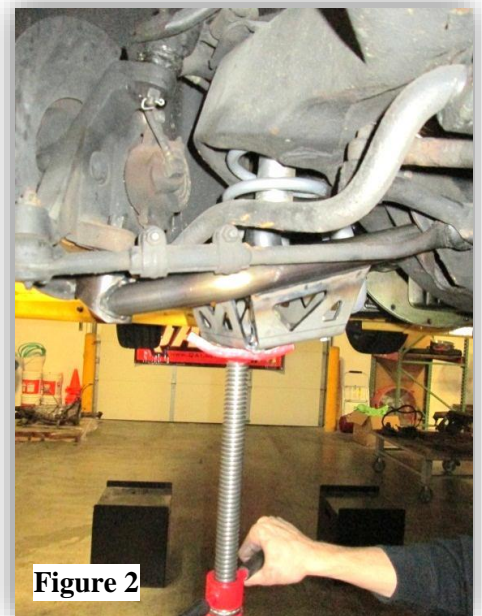

Figure 2
4. Support the lower control arm with a jack to take the pressure off the droop stop and to contain the spring pressure. (**Figure 2**)
6. Support the lower control arm with a jack to take pressure off the droop stop and to contain the spring pressure. **(Figure 2)**